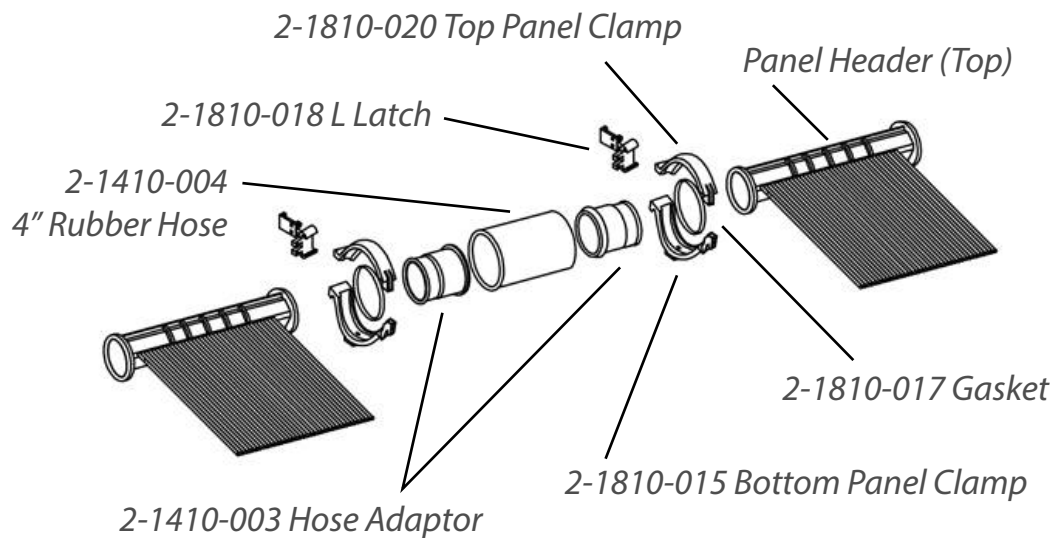

Fig. 7.2
4. Place the bottom half (see Fig. 7.2-A) of the plastic panel clamp (2-1810-004) under the collector header with the hook portion of the panel clamp on the inside of the collectors.
5. Seat the hose adaptor & header together by inserting the gasket into the groove on the hose adaptor and placing the ends of both into the open space in the panel clamp bottom. (Fig. 7.2-B)
6. Interlock the top half of the panel clamp with the hook on the bottom half. Swing top half over top of both parts. Squeeze the top and bottom portions of the panel clamp together using channel lock pliers and lock both halves of the clamp together using the locking clip. (NOTE: Slide large end of locking clip over small end of plastic panel clamp assembly) (Fig. 7.2-C)
9. At this point slide (2) stainless steel hose clamps onto the 4" long rubber hose.